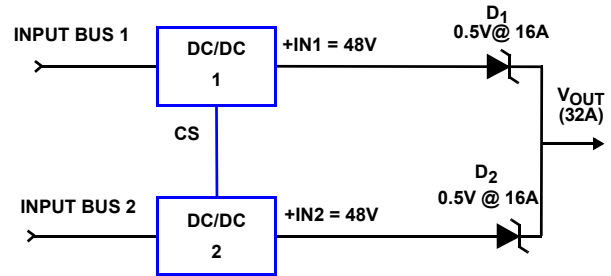

FIGURE 29. 1 + 1 REDUNDANT SYSTEM WITH DIODE ORING
For example, in a 48V, 32A (1 + 1) redundant system with current sharing, using a Schottky diode as the ORing device (Refer to Figure 29), the forward voltage drop is in the 0.4V to 0.7V range, (let us assume it is 0.5V). The power loss across each diode is shown in Equation 10:
- In the particular cases illustrated in the previous examples of Figures 29 and 30 with N = 1, each of the two ORing feeds have to be able to handle the full load current.